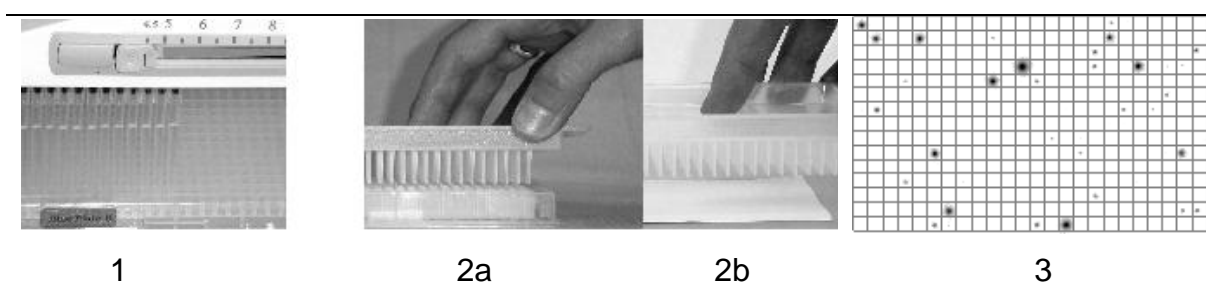

Figure 3
- Transfer an adequate volume of assay buffer (we recommend 20 μ l/well resulting in a 12.5 μ M peptide solution) into each well to adjust to your desired final substrate concentration. Normally, the peptides are dissolved within 5 min at room temperature. Gently mixing of the MTPs will help to dissolve the peptides. (see Figure 3, 1)
- Use the provided replicator to transfer a sample from each well to the streptavidin-coated flat surface (we recommend Sam²® Biotin Capture Membranes from Promega), please refer to Figure 3, 2a and 2b.
- Expose Sam²[®] Biotin Capture Membranes to a Phosphor-Imager Screen or X-Ray film. For easier handling we recommend to wrap the membranes still slightly wet in plastic foil (e.g. Saran Wrap[®]) before exposure (see Figure 3, 3)